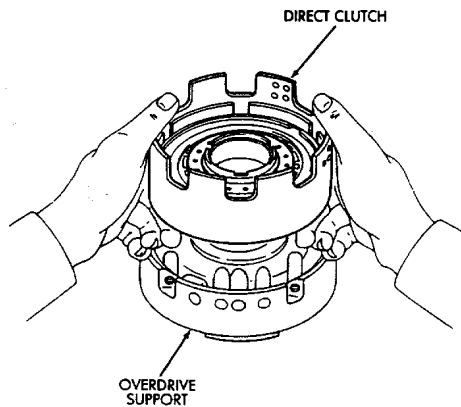

Fig. 4 Mount Direct Clutch On Overdrive Support
(5) Mount dial indicator on clutch and position indicator plunger on clutch piston (Fig. 4).